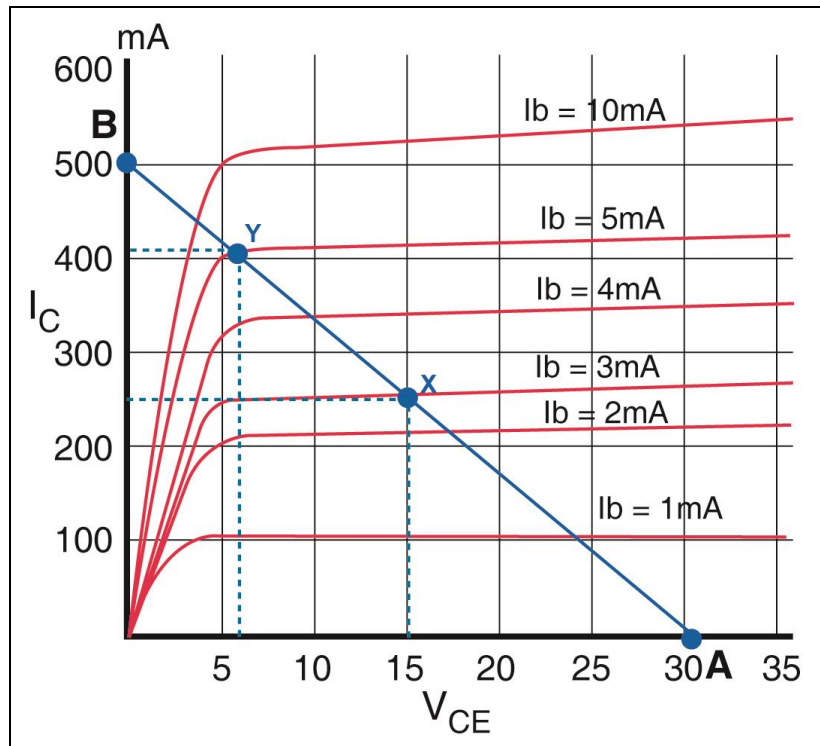

Fig. 3.3-7 Representing Load Line on the Characteristic of the Example
- a. Characteristic curves of Fig. 3.3-7, find the point of intersection (X) at the load line for base current curve of 3mA. From this point go horizontally left to find the collector current I_C , finding $I_C = 250\text{mA}$. From point X, go vertically down to find $V_{CE} = 15\text{V}$.
- b. On the characteristic curves of Fig. 3.3-7, find the point of intersection (Y) at the load line for base current curve of 5mA. From this point go horizontally left to find the collector current I_C , finding $I_C = 410\text{mA}$. From the same intersection point go vertically down to find $V_{CE} = 6.5\text{V}$. By applying the collector current gain equation $\beta_{DC} = I_C / I_B$. Then, $\beta_{DC} = 410 / 5 = 83$.